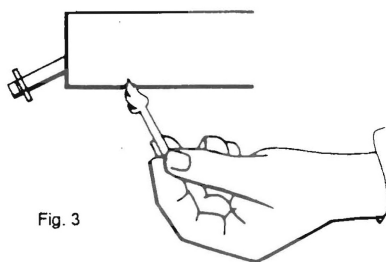

Fig. 3
3. Strike match and place under coil visible through shroud. (Fig. 3)